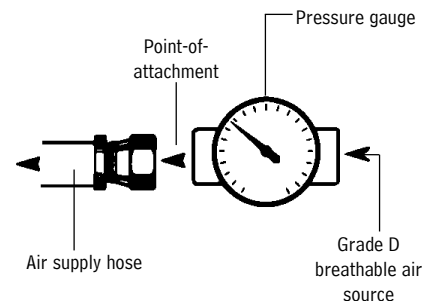

Figure 4
7. Adjust the air pressure at the point-of-attachment to within the approved pressure range found in the respirator user manual (**Figure 4**).